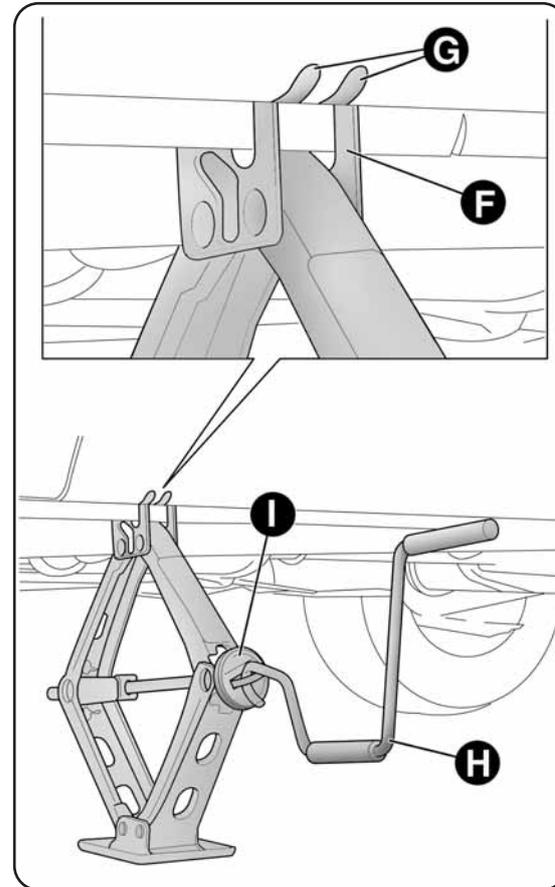

fig. 12
- make sure that the splines F-fig. 12 on the jack are firmly fitted to tab G on the side member;
- fit the handle H-fig. 12 into device I of the jack and lift the car until the wheel is several centimetres off the ground. When turning the jack handle make sure that it can turn freely without scraping your hand against the ground. The moving components of the jack (screws and joints) can also cause injuries: avoid touching them. If you become soiled with the lubricating grease, wash it off thoroughly;